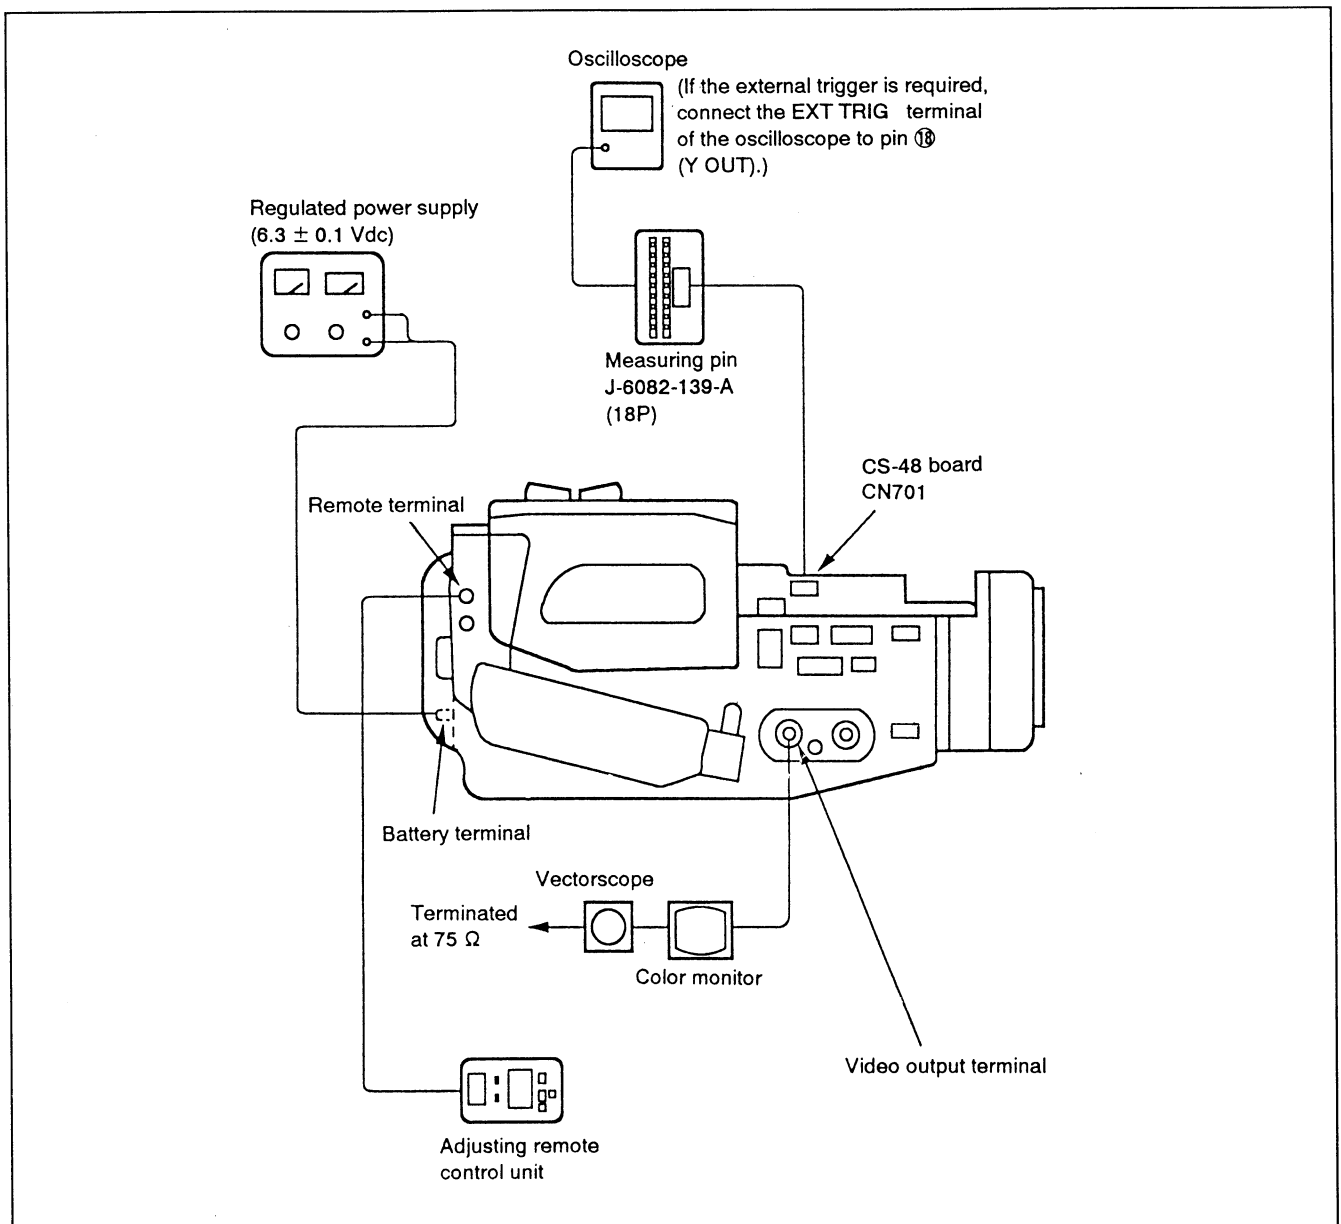

Fig. 7-1-3.
- 1) Connect the equipments for adjustment as shown in Fig. 7-1-3.